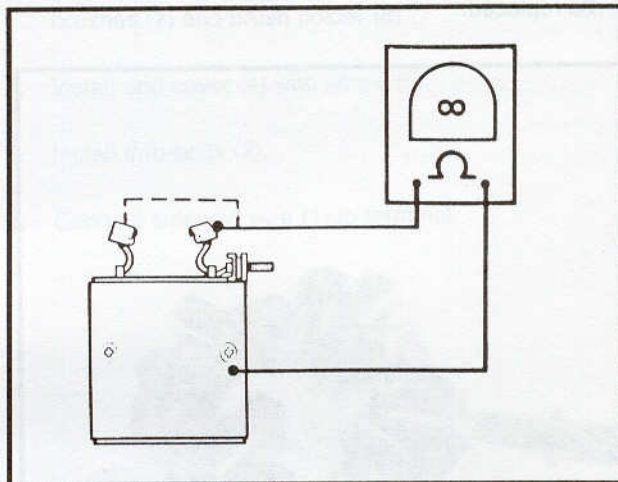

Figure 5-19. Grounded Field Test
13. See Figure 5-19. Check for **GROUND**ED **FIELD** **WINDING** with an ohmmeter or continuity tester. Touch one probe to the frame, and the other probe to each of the brushes attached to the field winding. There should be no continuity (infinite ohms). If there is any continuity at either brush, the field winding(s) are grounded and the field frame should be replaced.